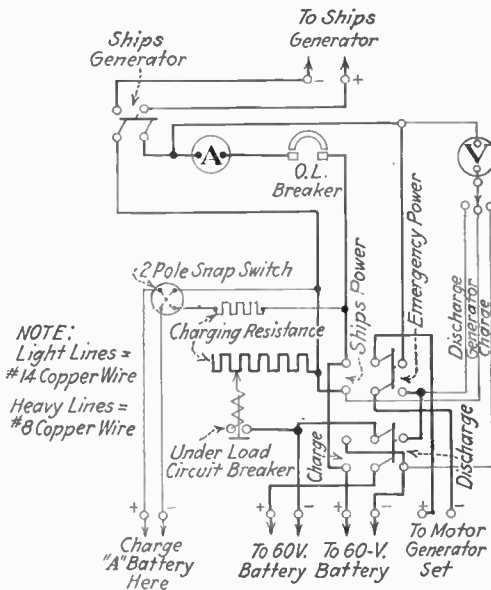
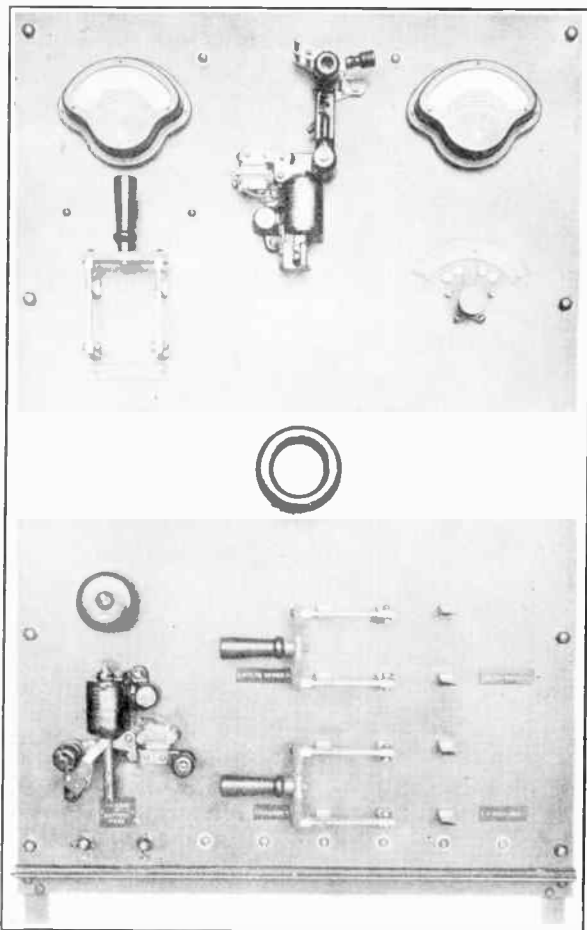

FIG. 58.—Wiring diagram of a modern charging panel, marine type.
FIG. 59.—Modern charging panel (Ward Leonard) marine type.
*Ans.* Figure 58 is the charging-panel wiring diagram, a photograph of which is shown in Fig. 59.